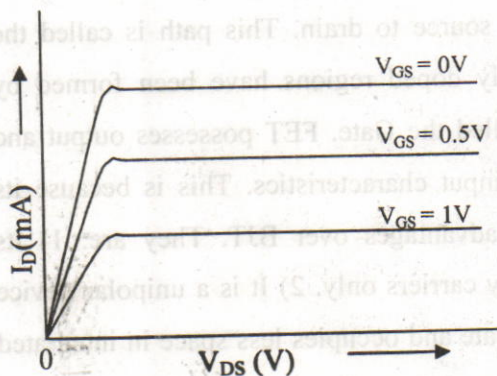

Fig.5.3
9. Mark the observed points and join them by smooth curves as shown in Fig.5.3.